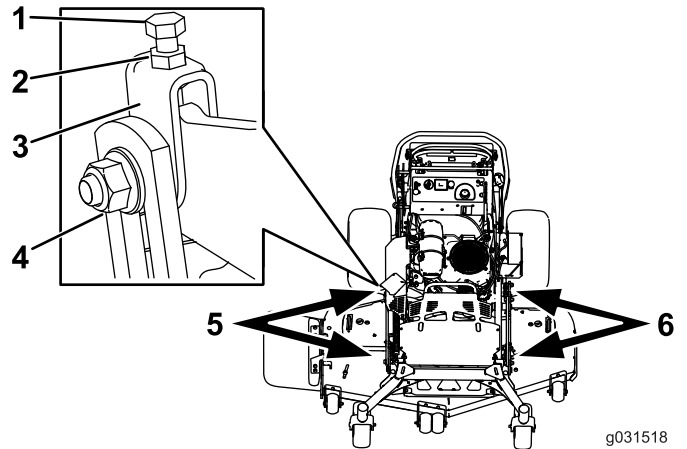

Figure 80
1. Loosen the side nut and jam nut in the yokes you want to adjust (Figure 80).
2. Rotate the top bolt of the yokes to adjust the height of the mower deck (Figure 80).